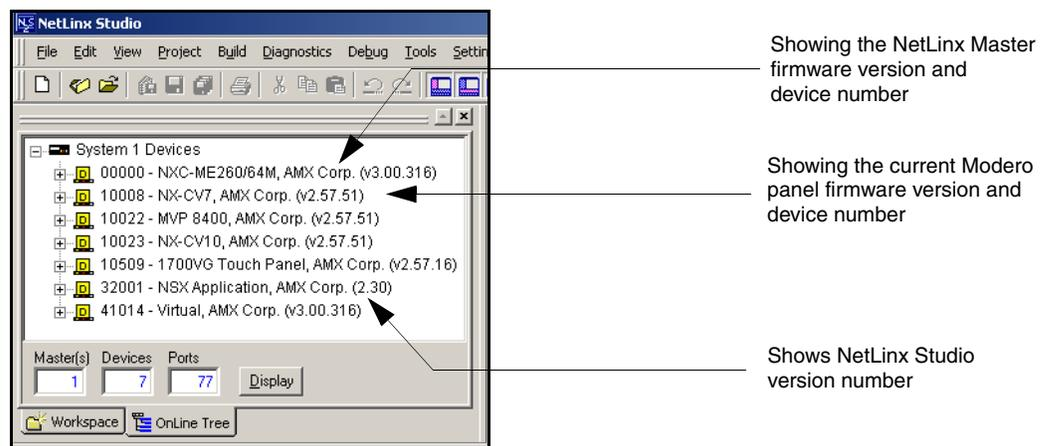

FIG. 74 NetLinX Workspace window (showing connected Modero panel)
3. After the Communication Verification dialog window verifies active communication between the PC and the Master, verify the panel appears in the **OnLine Tree** tab of the Workspace window (FIG. 74). *The default Modero panel value is 10001.*